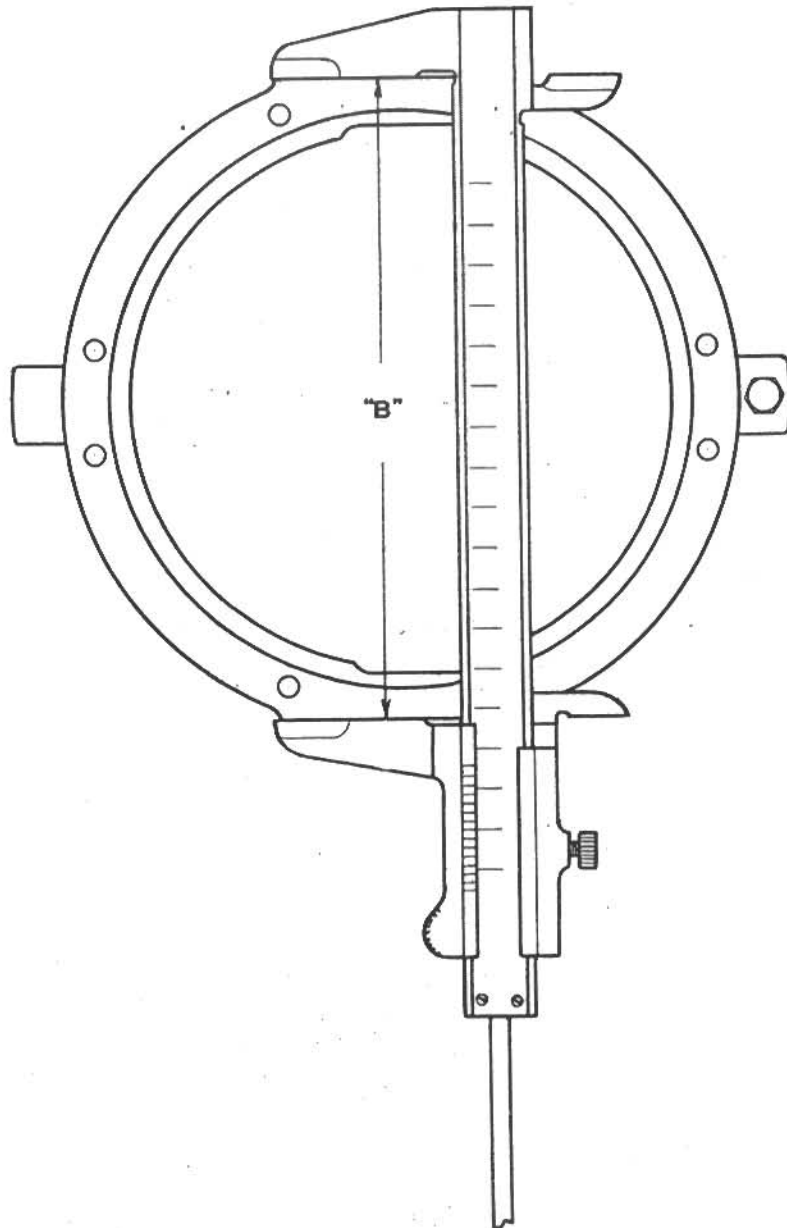

Fig.5-17 Measuring Height of Steering Knuckle
f. Measure and record the height "B" of the steering knuckle as illustrated in figure 5-17.